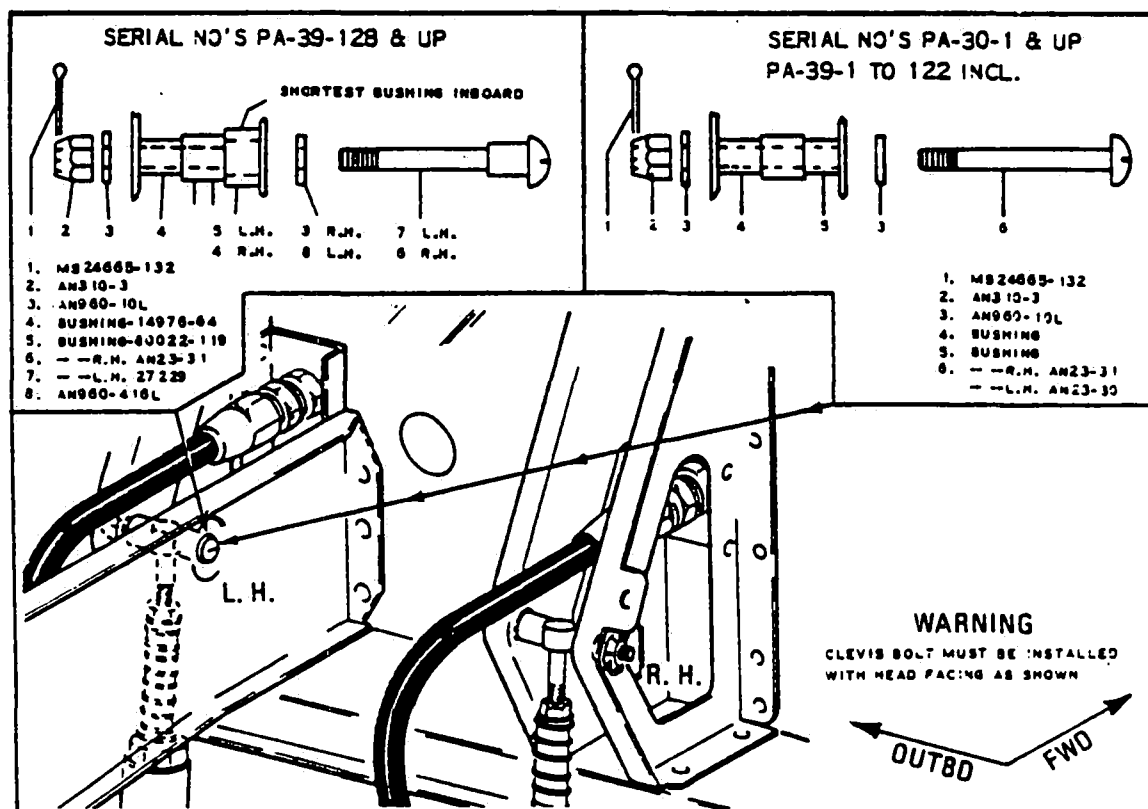

Figure 7-26a. Brake Cylinder Installation
- b. Install spring (18) and fluid line fitting (19).
- c. Slide the actuating arm (25) into the cylinder housing and install "O" ring (20), bushing (21), spring (22), washer (23) and secure with nut (24).
- d. Install "O" ring on inside (5) and outside (6) of gland packing nut (7).
- e. Slide spring, gland packing nut (7), washer (9), piston (10) with "O" ring (11), spring (12) and bushing (13) on piston rod (8) and secure with snap ring (14).
**7-71. INSTALLATION OF BRAKE CYLINDER. (Refer to Figure 7-26a.)**
- a. Position the cylinder in its mounting bracket and insert the upper mounting bolts from the inboard side of each cylinder along with the appropriate hardware as shown in Figure 7-26a.
The correct upper mounting bolt must be installed as shown in Figure 7-26a for the particular serial numbered aircraft being serviced.